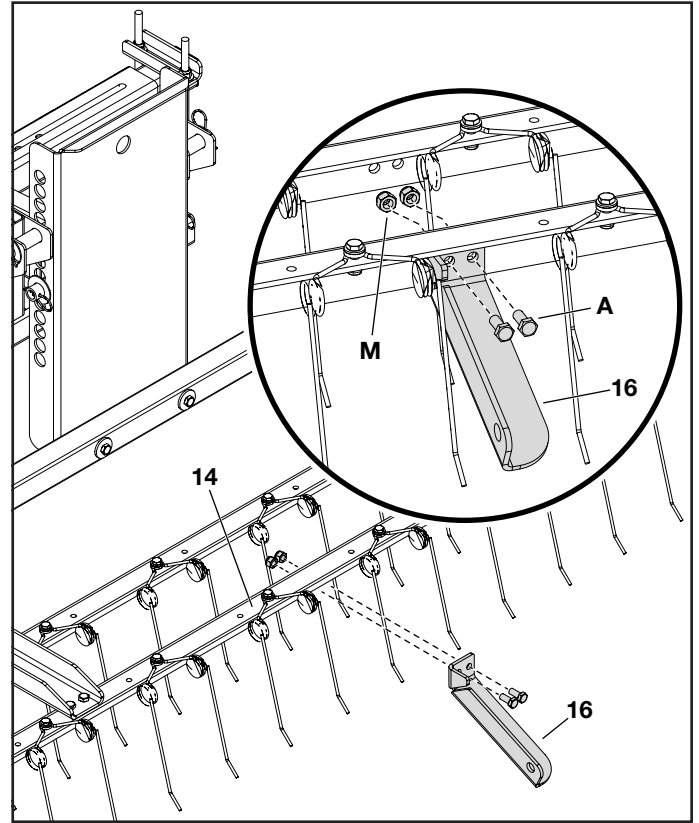

FIGURE 13
STEP 13: (SEE FIGURE 13)
- Attach the wheel mount bracket (16) to the front tine mount bracket assembly (14) with two hex bolts (A).
- Secure the hex bolts with two Nylock nuts (M).